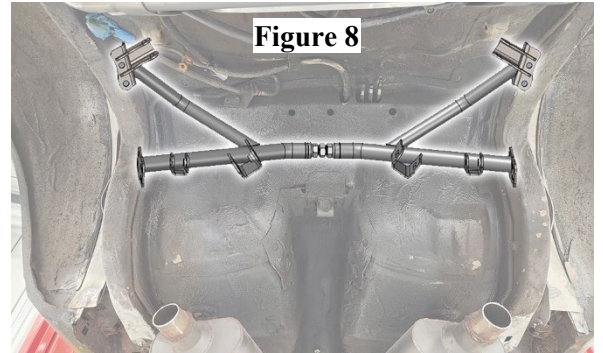

Figure 8
2. Place the QA1 crossmember in place using clamps. The center of the crossmember is adjustable to adjust for the narrower frame width of earlier cars. Loosen the jam nuts and adjust the hex as needed to fit the outer flanges against the inner frame rails. Tighten the jam nuts after adjusting. (Figure 8)